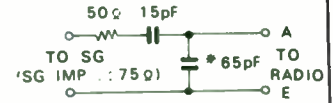
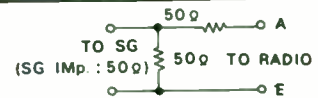

Fig. 1 Antenna Pad
Fig. 3 Antenna Pad
- Antenna Pad: Refer to Fig. 1 and Fig. 3
- Connect the signal generator to the antenna receptacle through the antenna pad. (Fig. 1)
- Connect the signal generator to the antenna receptacle through the antenna pad. (Fig. 3)